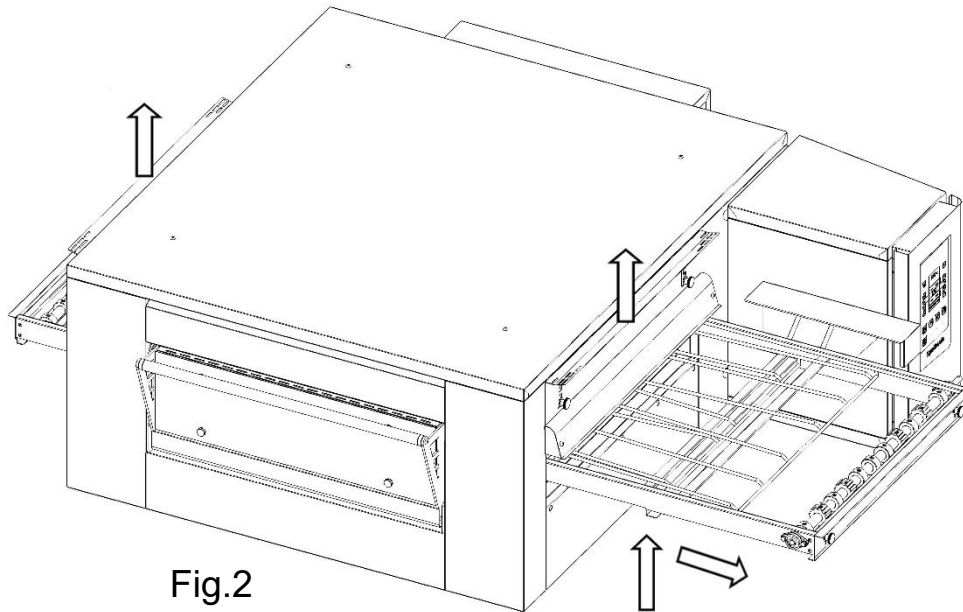

Fig.2
3. Turn on the oven and set temperature of 200 ° C. When the burner is lit, the flame intensity is highest, verify that the pressure indicated by pressure gauge is connected to supply provided for the adjustments made, otherwise proceed with the regulation through the hexagon A (wrench of 10, Fig.2).
4. Wait until the oven ports on the phase of the minimum and adjust the pressure of the minimum through the screw B (Philips screwdriver, Fig.2).
5.Raise the shutters at the entrance and exit to the point of maximum aperture (Fig.2).
6.Lift the wire mesh conveyor belt from both ends and remove it in the direction of the controls (Fig.2).